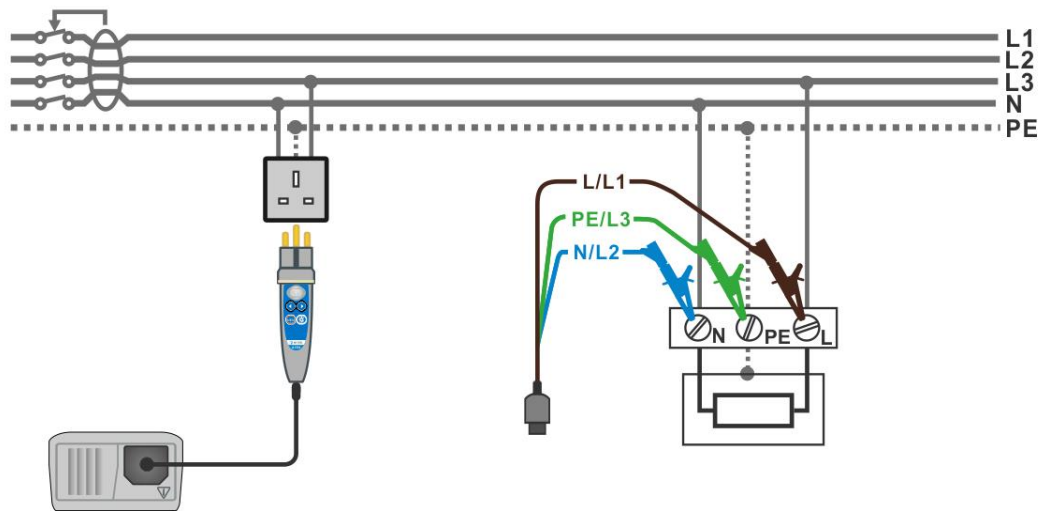

Figure 5.22: Connecting the plug cable or commander and the universal test cable
- ❑ **Connect** test leads to the item to be tested (see figure 5.22).
- ❑ **Connect** test leads to the item to be tested (see *figure 5.22*).